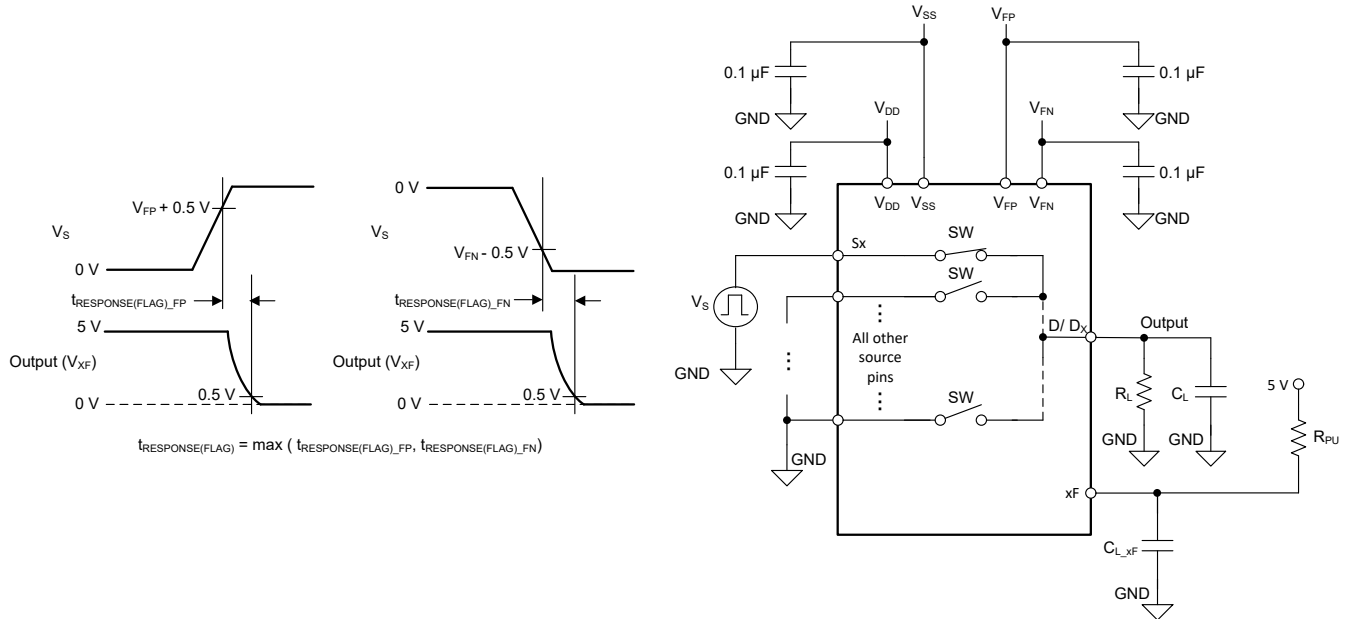

Figure 8-11. Fault Flag Response Time Measurement Setup
Fault flag response time ($t_{\text{RESPONSE(FLAG)}}$) measures the delay between the source voltage exceeding the fault supply voltage (V_{FP} or V_{FN}) by 0.5 V and the general fault flag (FF) pin or specific fault flag (SF) pin to go below 10% of its original value. Figure 8-11 shows the setup used to measure $t_{\text{RESPONSE(FLAG)}}$.